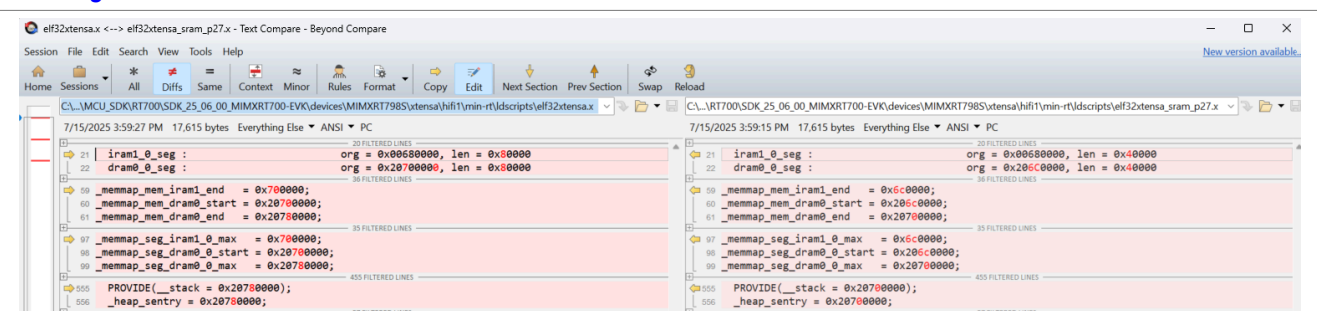

Figure 19. Comparison between default and modified linker files
- Figure 19 shows the difference between the default and modified versions.